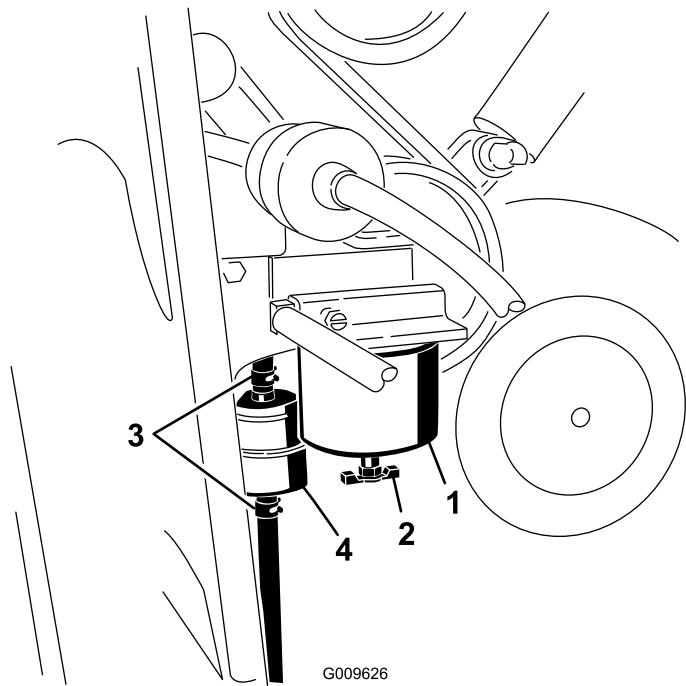

Figure 36
1. Locate the fuel filters on the right side of the engine (Figure 36) and place a clean container under it.
2. Clean the area where the filter canister mounts (Figure 36).
3. Remove the filter canister and clean the mounting surface (Figure 36).
5. Install the filter canister by hand until the gasket contacts the mounting surface, then rotate it an additional 1/2 turn (Figure 36).
6. Locate the in-line filter behind the fuel filter canister (Figure 36) and note the direction of flow arrow on the side of the in-line filter.
7. Open the clamps on each end of the in-line filter and slide the hoses off of it (Figure 36). Discard the filter.
8. Slide the hoses over the end of a new filter (Figure 36), ensuring that the arrow on the filter is
1. Locate the fuel filter on the right side of the engine (Figure 36) and place a clean container under it.